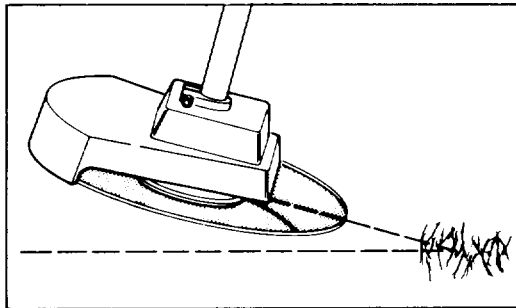

Figure 7
4. Slowly move trimmer in a side to side motion into the area being cut, while at the same time, holding the unit at the desired height of cut. Always tip the leading edge of the cutter slightly downward to gain maximum cutting efficiency (Fig. 7).